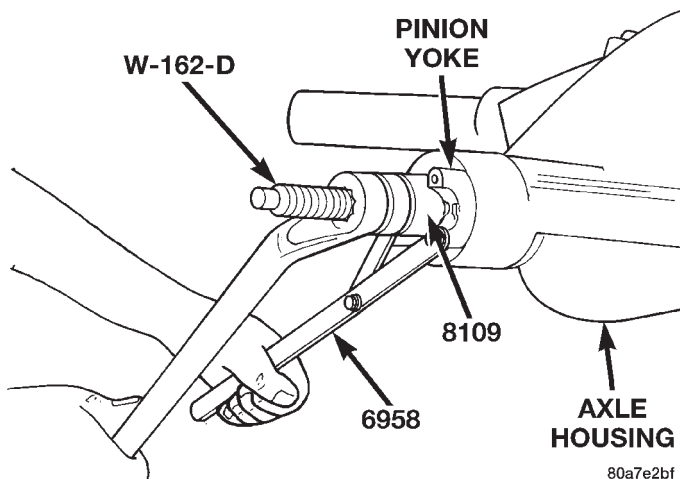

Fig. 9 Pinion Yoke Installation
(2) Install yoke on the pinion gear with Installer W-162-D, Cup 8109, and Holder 6958 (Fig. 9).